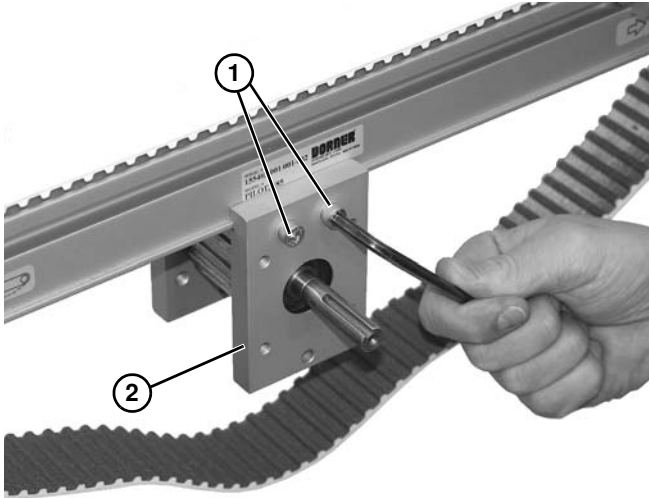

**Figure 83**
12. Install cover (**Figure 83, item 1**) and two screws (**Figure 83, item 2**). Tighten screws enough to secure cover.